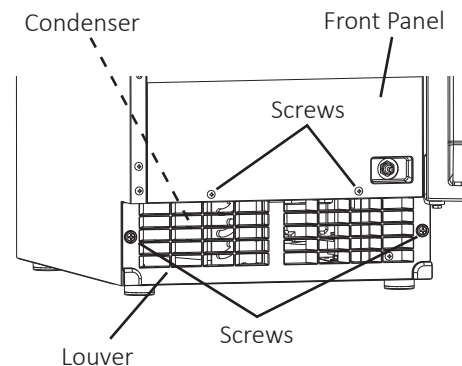

Fig. 40
- 2) Remove the screws securing the front panel, then remove it (See Fig. 40).